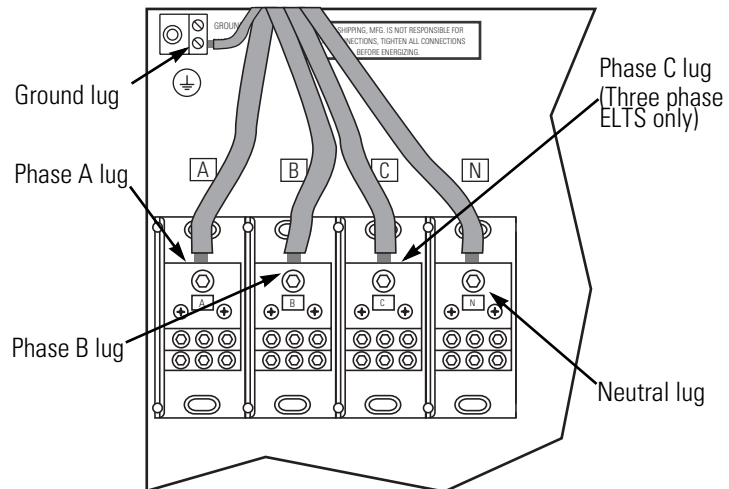

Figure 7: Connecting Emergency power to the ELTS
1. Connect each phase power cable to the correct lug. See Figure 7, below, to identify the lugs.
1. Connect one phase cable to the Phase A lug and one to the Phase B lug. See Figure 7, above, to identify lugs.